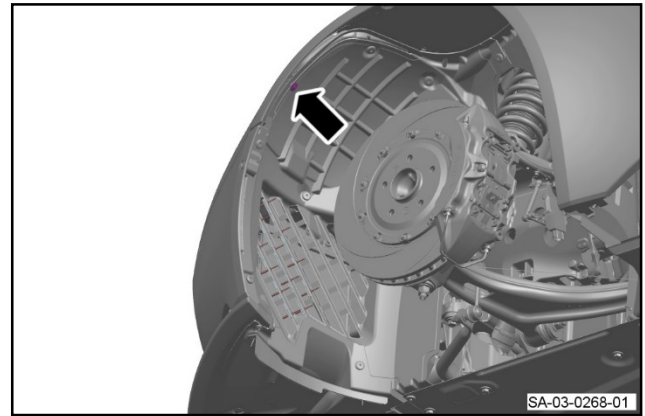

Figure 10
12. Install the screw that attaches the front section of the front left side wheel arch liner (refer to Figure 10).